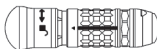

Figure 6
3. Hold handpiece firmly in one hand and with other hand push and rotate release sleeve of attachment until arrow is aligned with unlock symbol (Figure 6).